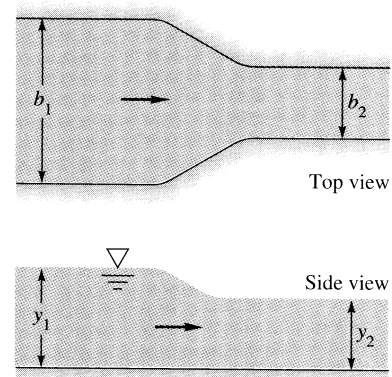

Fig. P10.113
**10.113** Figure P10.113 shows a channel contraction section often called a *venturi flume* [from Ref. 23 of Chap. 10], because measurements of  $y_1$  and  $y_2$  can be used to meter the flow rate. Show that if losses are neglected and the flow is one-dimensional and subcritical, the flow rate is given by